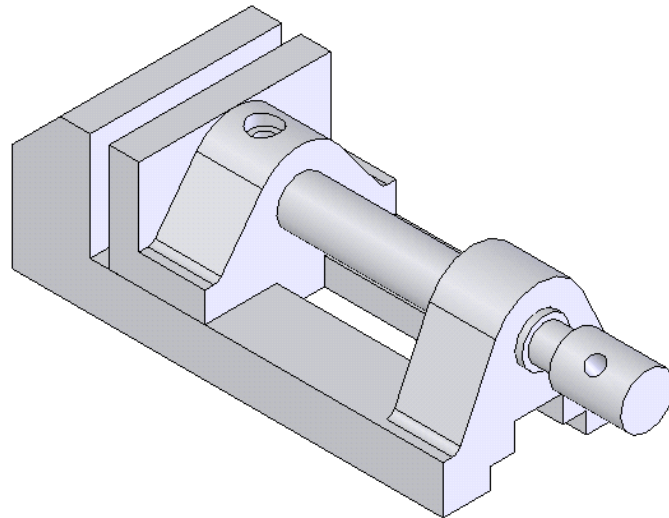

Figure 10-64 Assembly after applying the **Coincident** mate to the Jaw Screw
10. Choose the **Add/Finish Mate** button from the **Mate** pop-up toolbar. The assembly after adding the **Coincident** mate is displayed in Figure 10-64.